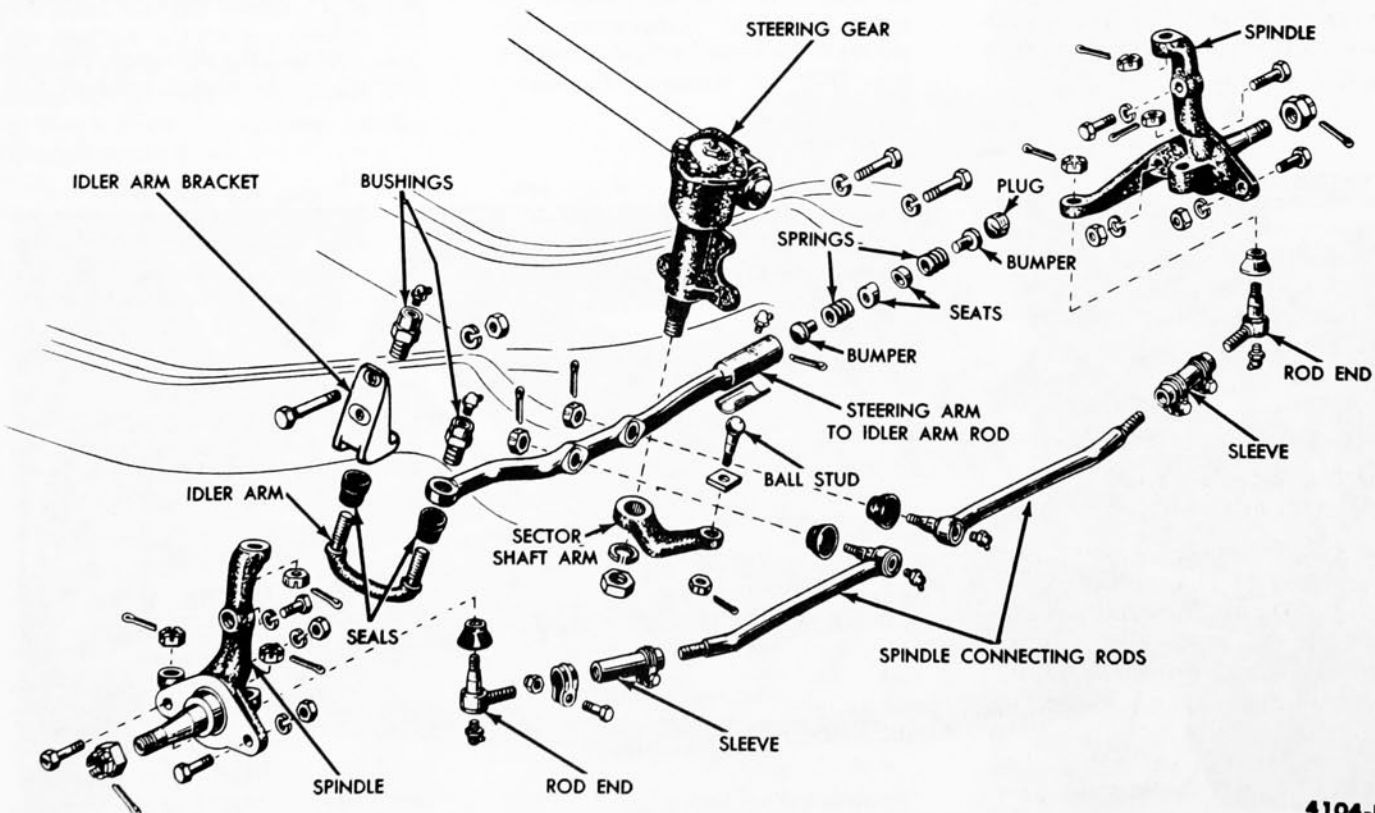

FIG. 13—Steering Linkage
1. Remove the cotter pin and nut from the rod end ball stud (Fig. 13).
3. Install new ball stud parts in the socket in the order shown in Fig. 13. **When using a ball stud repair kit to replace worn or damaged parts, install all parts supplied in the kit.**
2. Remove the cotter pins and nuts which attach both spindle connecting rod ball studs to the steering arm to idler arm rod (Fig. 13) and tap the ball studs out of the rod.